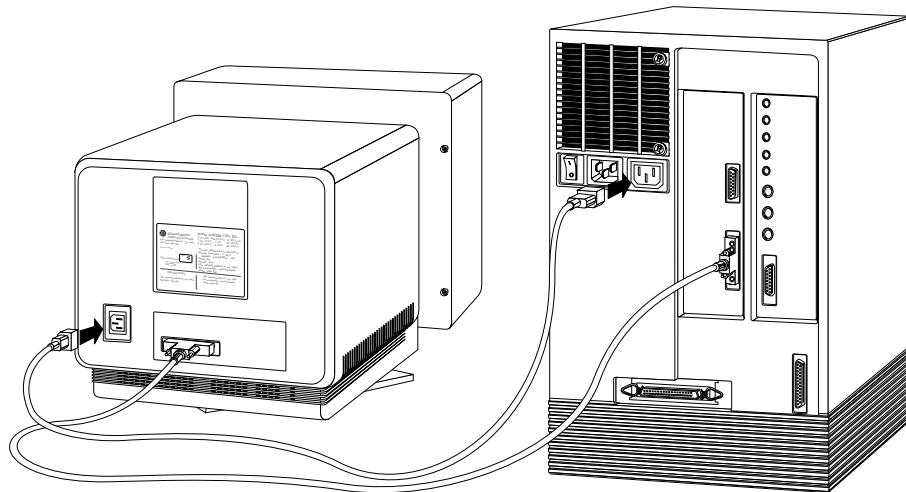

Figure 2-10 Connecting the Monitor to the Workstation with the Monitor Power Cable
- Connect the male end of the cable to the monitor power connector on the back of the chassis, as shown in Figure 2-10.